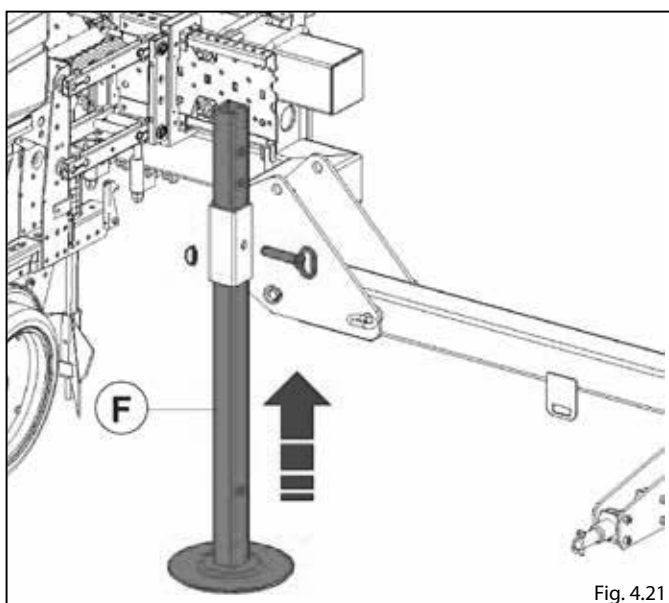

Fig. 4.21
- Lift the support foot **F** (Fig.4.21).